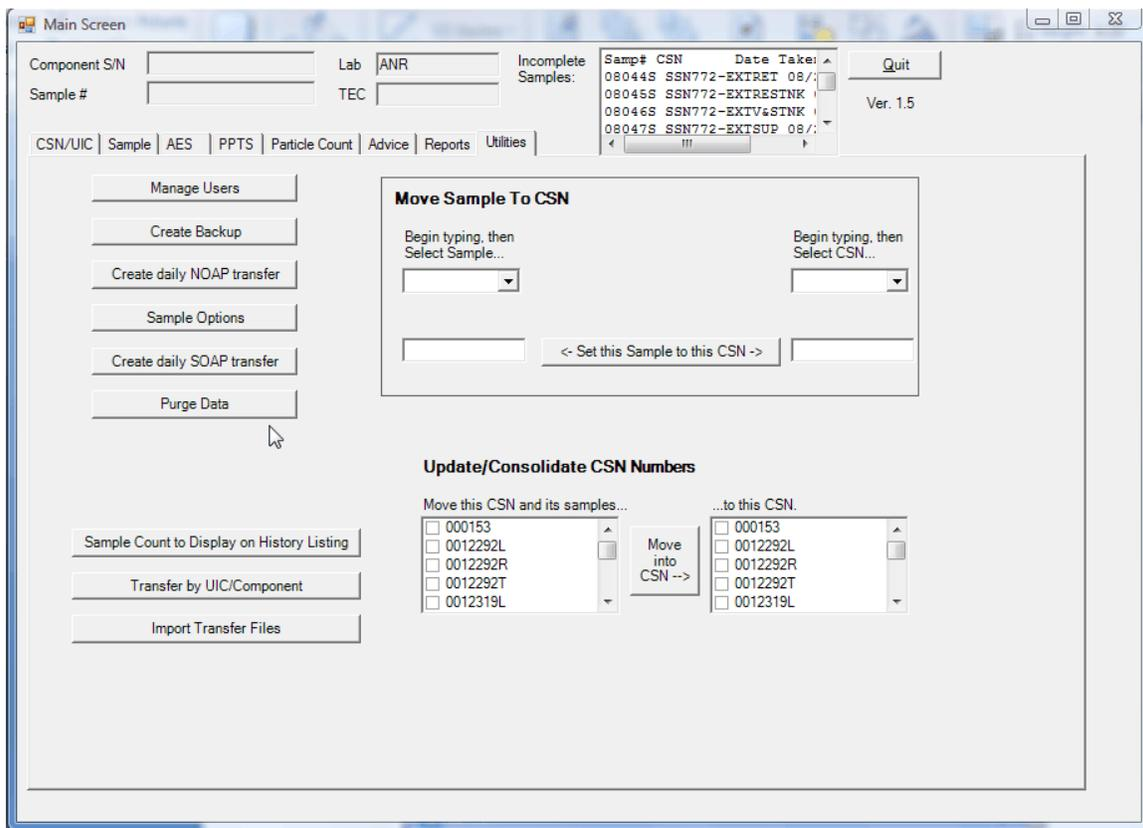

Figure 61. Utilities Tab
(1). From the main sample screen press the Utilities tab and the following screen will appear (Figure 61).